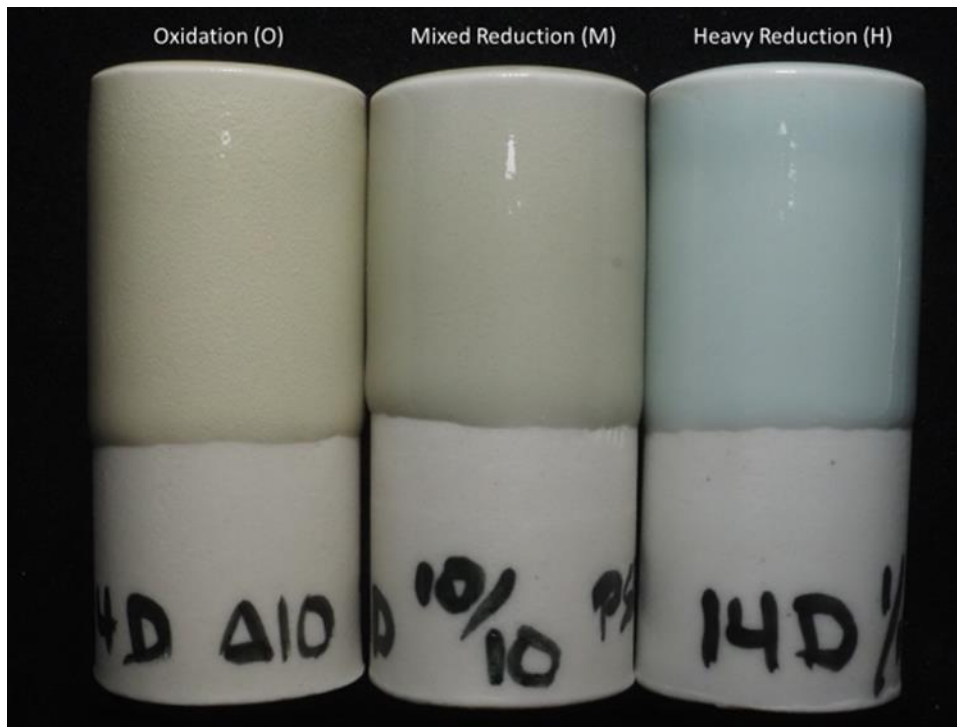

Figure 3: Results of Pinnell's Blue Celadon glaze. O=Oxidation, M=Mixed (Uneven) Reduction, H=Heavy Reduction
Results of Pennell's Blue Celadon glaze: This alkaline-earth feldspathic glaze has no alkali additions and is the last of these three glazes to mature. Test tiles fired in oxidation and reduction are shown in figure 3. The valence state of the iron dissolved in this celadon glaze determines the color. Small amounts of ferric iron (Fe^{+3}) in the glaze produce a pale yellow-green, while ferrous iron (Fe^{+2}) produces the blue-green color[4]. Hematite (Fe_2O_3) is the stable, ambient room temperature form of iron oxide. However, when exposed to high temperatures in air or moderate reduction conditions, it reduces to Magnetite (Fe_3O_4), which contains a mixture of valence states (Fe^{+2} and Fe^{+3})[2]. Upon stronger reduction, Wüstite (FeO containing Fe^{+2}) is formed, which is only stable at higher temperatures. FeO acts as a flux, causing Fe^{+2} to be incorporated into the glaze as a true solution[4]. The oxidized test tile (O) is pale yellow-green, while the heavily reduced glaze (H) exhibits a blue-green color. Uneven reduction (M) produces a color midway between these two. Refiring the test tile on the right to cone 11 in oxidation produces a slight color shift in the direction of the middle tile.